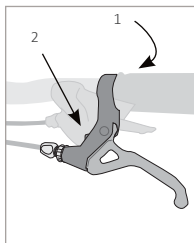
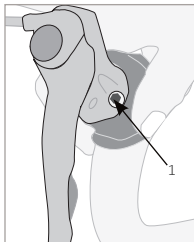
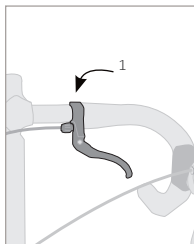

FIGURE 3.18
FIGURE 3.19
FIGURE 3.20
- Mountain brake-lever: for flat or mountain-type handlebar (Figure 3.18)
- Road brake-lever: for drop-type handlebar (Figure 3.19)
- Middle-bar brake-lever: for the 'tops' of a drop-type handlebar (Figure 3.20)
1. Find the lever-clamp bolt (Figure 3.18, Figure 3.19, or Figure 3.20).
1. Find the reach-adjustment screw (Figure 3.18) and turn. To decrease the reach, turn the screw clockwise. To increase the reach, turn the screw counterclockwise.
Some front direct-pull brakes are equipped with a brake modulator, or “Power modulator.” This device includes a small spring in the pipe (Figure 3.18). As you squeeze the brake lever, you must compress the spring before you can apply full braking power to the rim. This changes the way the brake feels, makes the application of stopping force more gradual, and also makes the adjustment somewhat more sensitive.